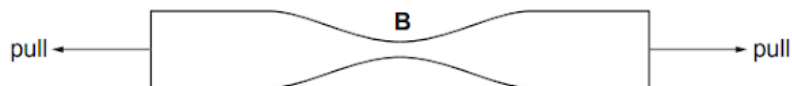

Fig. 7.1
- 7 (a) Fig. 7.1 shows a length of tape under tension.